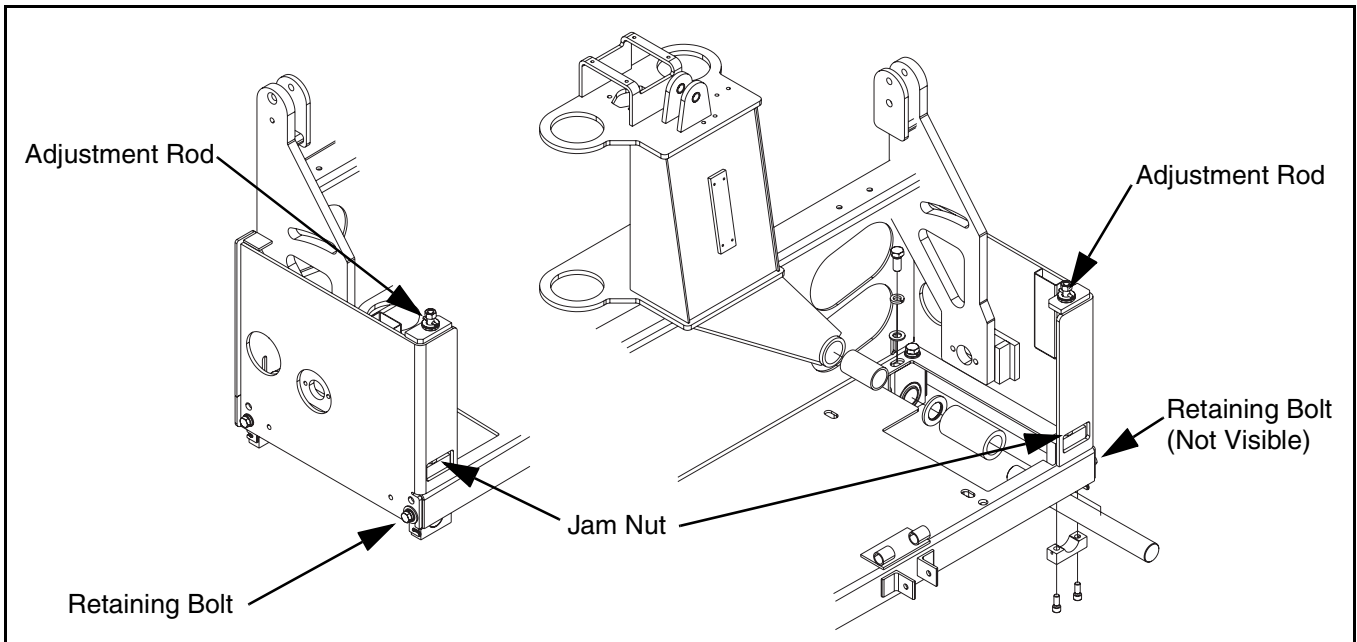

Figure 23 Adjusting Angle of Attack
- 1) To adjust the independent attack angle, first loosen rear adjustment rod retaining bolts. (Figure 23)
- 4) Once the desired angle is obtained, re-tighten jam nuts and retaining bolts. (Figure 23)